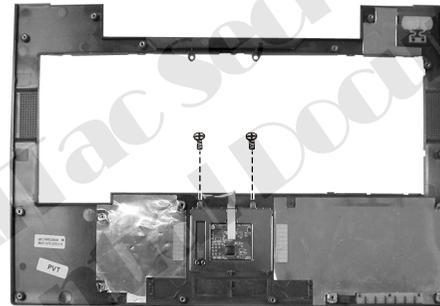

Figure 2-31 Remove the two screws
3. Remove the two screws and free the touch pad. (Figure 2-31).